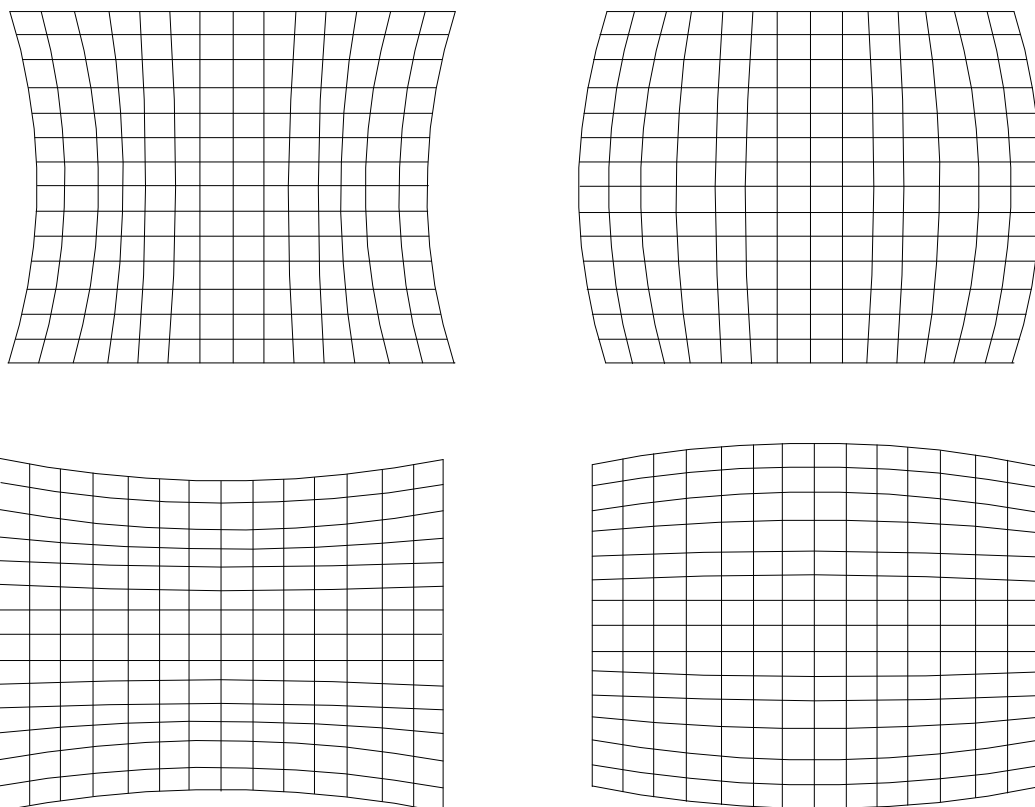

Figure 5-12. Four views of Pincushion Distortion. Use left/right keys for distortion at top and up/down keys for distortion at bottom.
The Pincushion Balance adjustment balances the pincushion error (see *Figure 5-6*) equally on both sides or top and bottom. Although the centerlines are straight, too much pincushion distortion on any side prevents the pincushion adjustment from correcting the error. Balance the error equally so the result looks like one of the pincushion illustrations in *Figure 5-12*.
2. Use the left/right arrow keys to correct pincushion distortion as shown on the top two patterns in Figure 5-12. Use the up/down arrow keys to correct pincushion distortion as shown on the bottom two patterns in Figure 5-12.